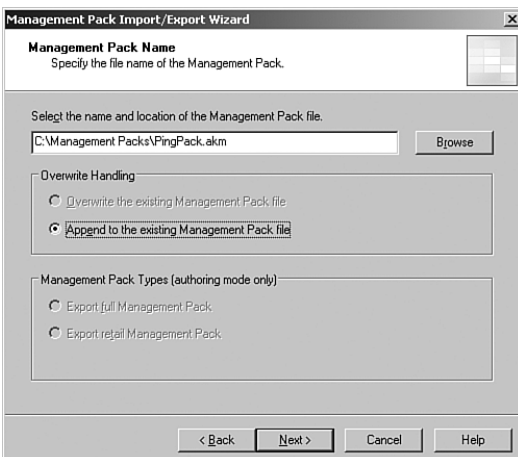

FIGURE 12.22 Naming the exported management pack.
5. You are asked to specify the name of the export file. Management pack files are stored in the file system with an extension of .akm. Figure 12.22 shows that we will export the PingPack management pack in a file named C:\Management Packs\PingPack.akm.